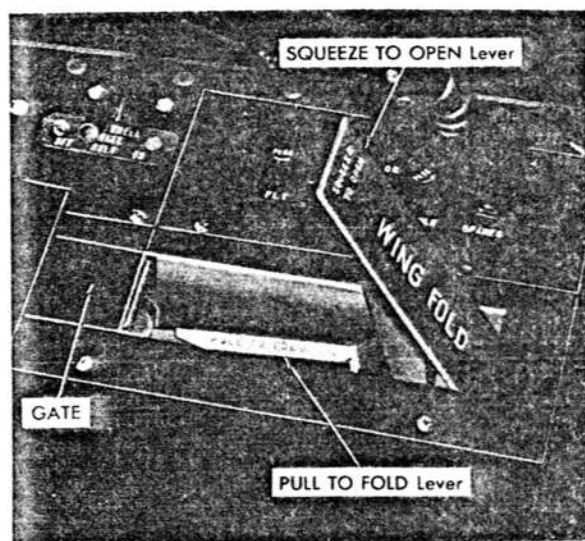

Figure 1-39. Wing Folding Controls
**GENERAL.** (See figure 1-39.) The wing outer panels can be folded to conserve storing and parking space. The wings are unlocked and locked mechanically and folded and spread hydraulically. A red warning flag at the wing fold is raised whenever the outer panel hinge pin is not locked. When one of the hydraulic power control systems is pressurized the ailerons are centered automatically during wing folding. The wing-fold and aileron jury struts must be installed when the wings are folded. The wing-locking control is a **SQUEEZE TO OPEN** lever at the aft end of the right-hand console. The wing-folding control is a **PULL TO FOLD** lever located underneath the **SQUEEZE TO OPEN** lever.
**SQUEEZE TO OPEN LEVER.** The **SQUEEZE TO OPEN** lever (figure 1-39) is locked flush with the right-hand console. It is unlocked by squeezing its forward end. Pulling it open actuates control rods and Teleflex controls which pull a lock pin from the outer panel hinge pin. The red warning flag will appear at this time. Pushing the control lever back in place replaces the lock pin. When the lock pin engages the hinge pin, the warning flag disappears.
**PULL TO FOLD LEVER.** The inner **PULL TO FOLD** lever (figure 1-39) mechanically operates a hydraulic selector valve. When the lever is pulled up, the selector valve is positioned, allowing hydraulic pressure from the utility hydraulic system to actuate an actuating cylinder to pull out the hinge pin. Pulling out the hinge pin actuates a sequence valve, allowing hydraulic pressure to actuate the wing folding cylinder. Pushing